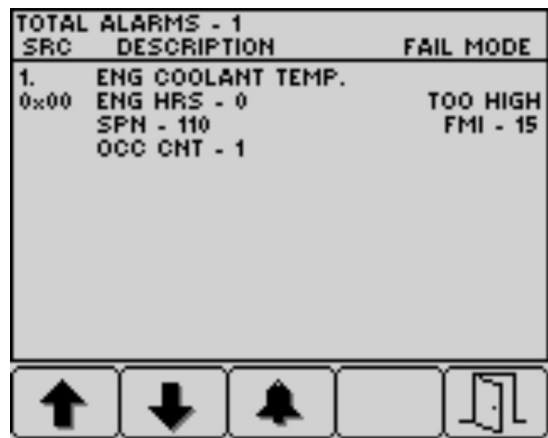

Figure 45
4. Press button 5 to exit the active fault list and return to the home screen (Figure 45).
5. Press button 5 to exit the active fault list and return to the home screen; refer to Figure 45 in Engine Advisories Messages (page 40).